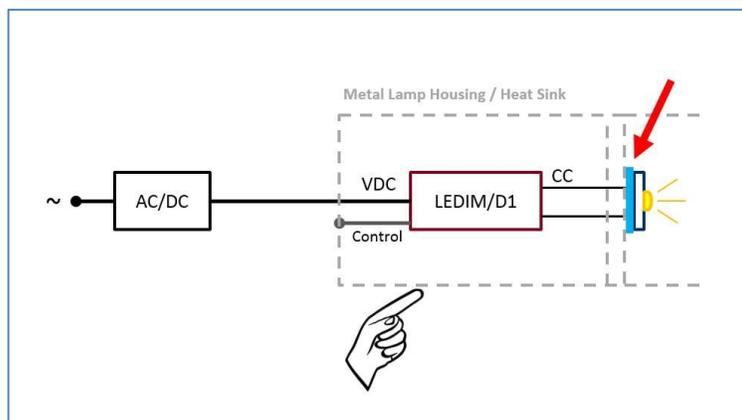

Figure 7: Critical Condition: Heat Sink connected to lamp housing with Alu PCB
- When the LED engine's PCB is made of Aluminum, it might be a critical condition to have the engine's heat sink electrically connected to the touch surface (e.g. the lamp housing). The parasitic capacity of the LED engine can cause malfunctions in touch dimming here. Please use thermal conducting pads3 instead of thermal paste (blue pad in Figure 7) to avoid.